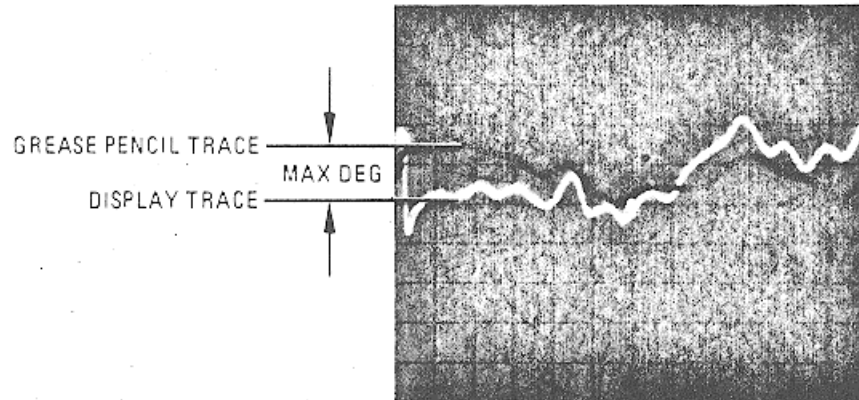

Figure 11. Reflection Frequency Response Phase
- (5) On 8505A Signal Processor Channel 2 press the REF OFFSET pushbuttons to center the display around the grease pencil trace.
- (6) Measure the maximum difference between the grease pencil trace and the display trace (Figure 11). This measured value should be $\leq 15^\circ$ for the entire 0.5 to 1300 MHz frequency range.
- (1) Repeat steps h (1) through h (5).
- (2) Measure the maximum difference between the grease pencil trace and the display trace (Figure 11). This measured value should be $\leq 10^\circ$ for the 2 to 1300 MHz frequency range.
- (3) Remove grease pencil trace from CRT.